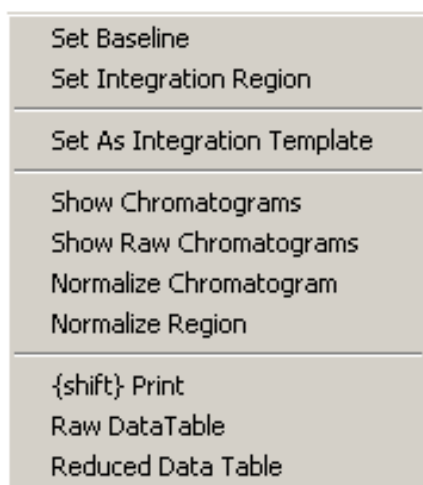

Figure 5-7: Chromatogram Operations Menu
- a) The *Operate on Chromatogram* tab is used to perform a number of basic chromatographic data processing operations such as setting the baseline, normalize the chromatogram, etc, which are accessed by right clicking on the chromatogram (Figure 5-7).